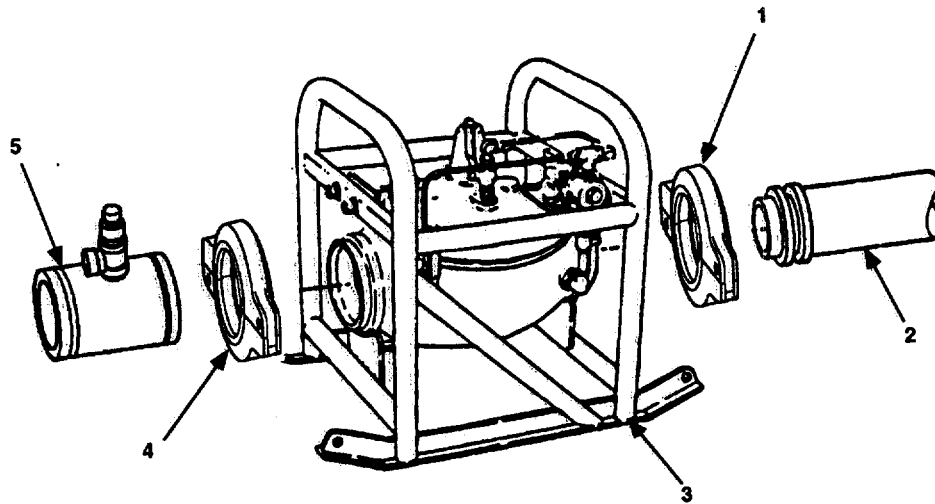

Figure 4-9. Pressure-Reducing Valve Assembly Replacement.
- Remove grooved-end pipe quick disconnect coupling clamp (Figure 4-9, 1) from downline 6 inch x 500 foot collapsible hose assembly (2) and pressure-reducing valve assembly (3).
- Remove grooved-end pipe quick disconnect coupling clamp (4) from pressure relief valve assembly (5) and pressure-reducing valve assembly (3).
- Remove pressure-reducing valve assembly (3).
- Inspect pressure-reducing valve assembly (3) for leaks, cracks, holes, missing components, or damage.
- Replace damaged or defective pressure-reducing valve assembly (3).